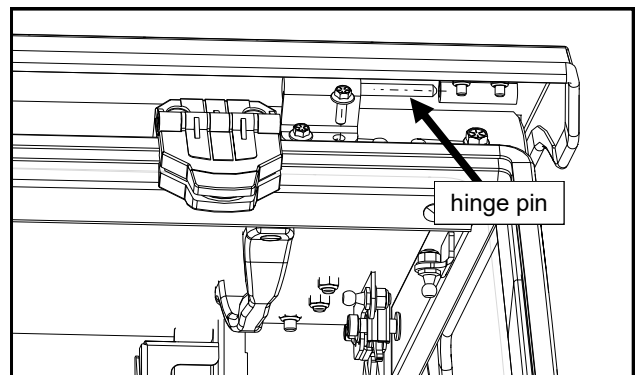

Fig. 13.2 (roof hinge - left)
13.2 Once the roof is in place, install the left hinge pin and then the right hinge pin. See fig. 13.2. Ensure that the roof is square to the side frames and tighten hinge fasteners.